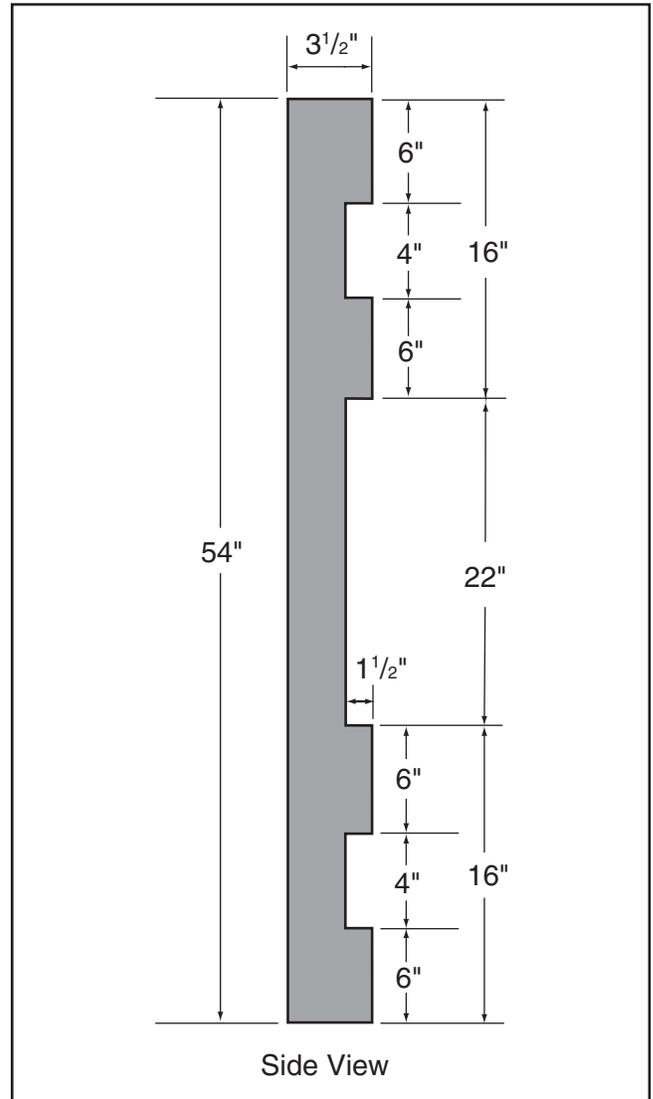

Figure 54. Dimensions of coplanarity gauge.
1. Make the "Coplanarity Gauge" shown in **Figure 54**.